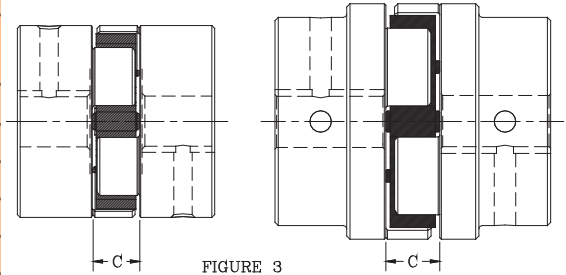

FIGURE 3
3. Position the hubs on the shafts to approximately achieve the "C" dimension shown in table 2. refer to figure 3. It is usually best to have an equal length of shaft extending into each hub. Tighten one hub in its final position using the set screw tightening torque given in table 1.